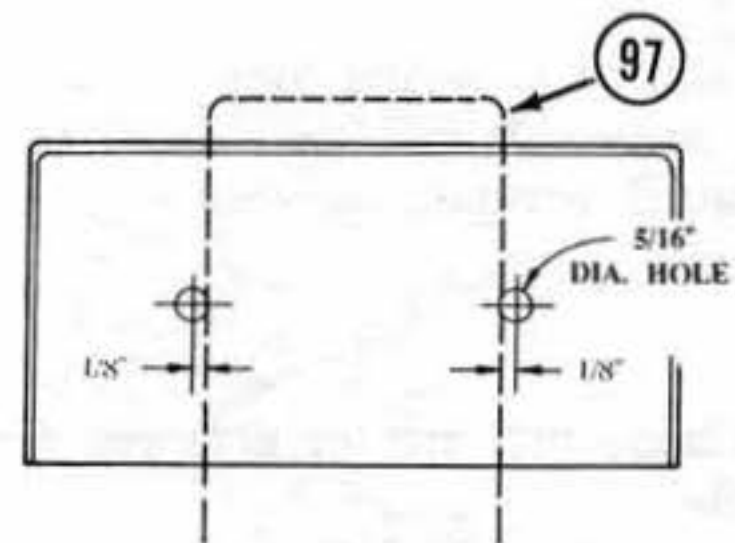

FIG. 45
1. Place the bent U-shaped, 1/16" wing wire (97) on the bottom side of the wing in the position you wish it mounted. Fig. 45
2. Measure 1/8" to the outside of both sides of the wire and drill two 5/16" dia. holes as shown in Fig. 45